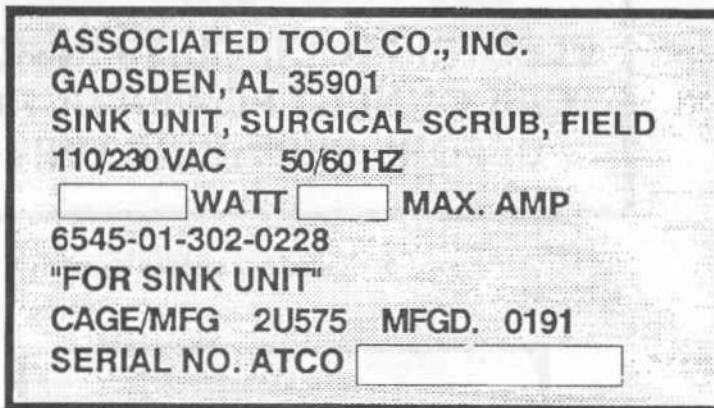

Figure 1-2. Case data plate.
- (a) Identification information as depicted on the case data plate is shown in figure 1-2.